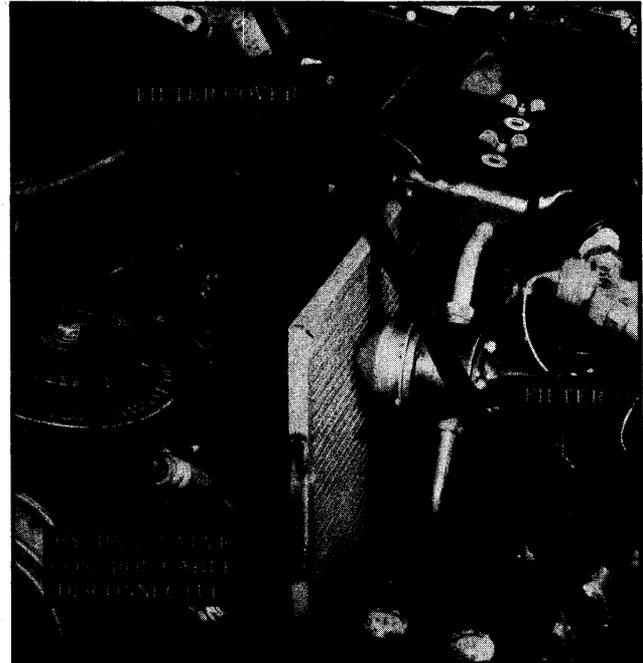

Fig. 14-14 Filter Removal
3. Remove filter by pulling forward out of evaporator housing. (See Fig. 14-14)